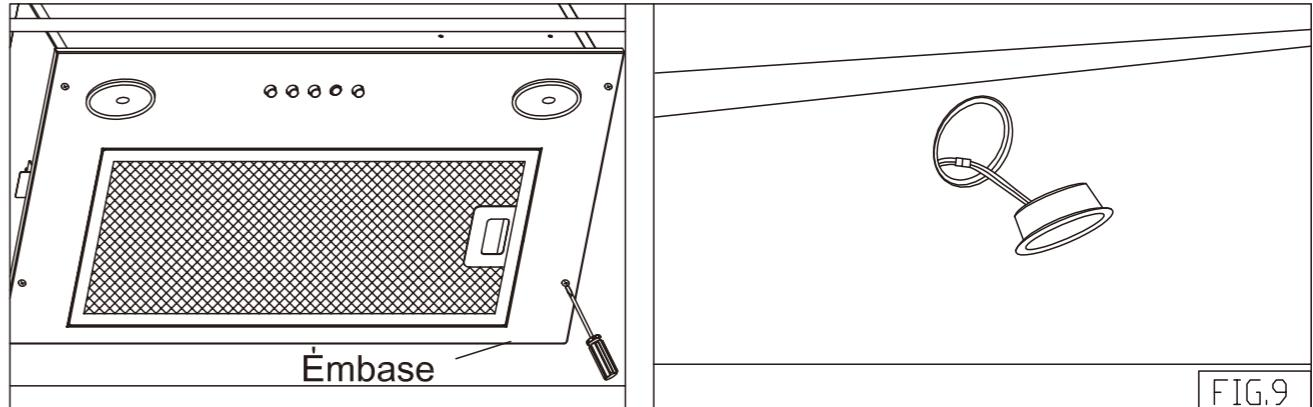

FIG.9
- (DC3V~3.8V, MAX 1 WATTS * 2PCS)(Fig. 9).